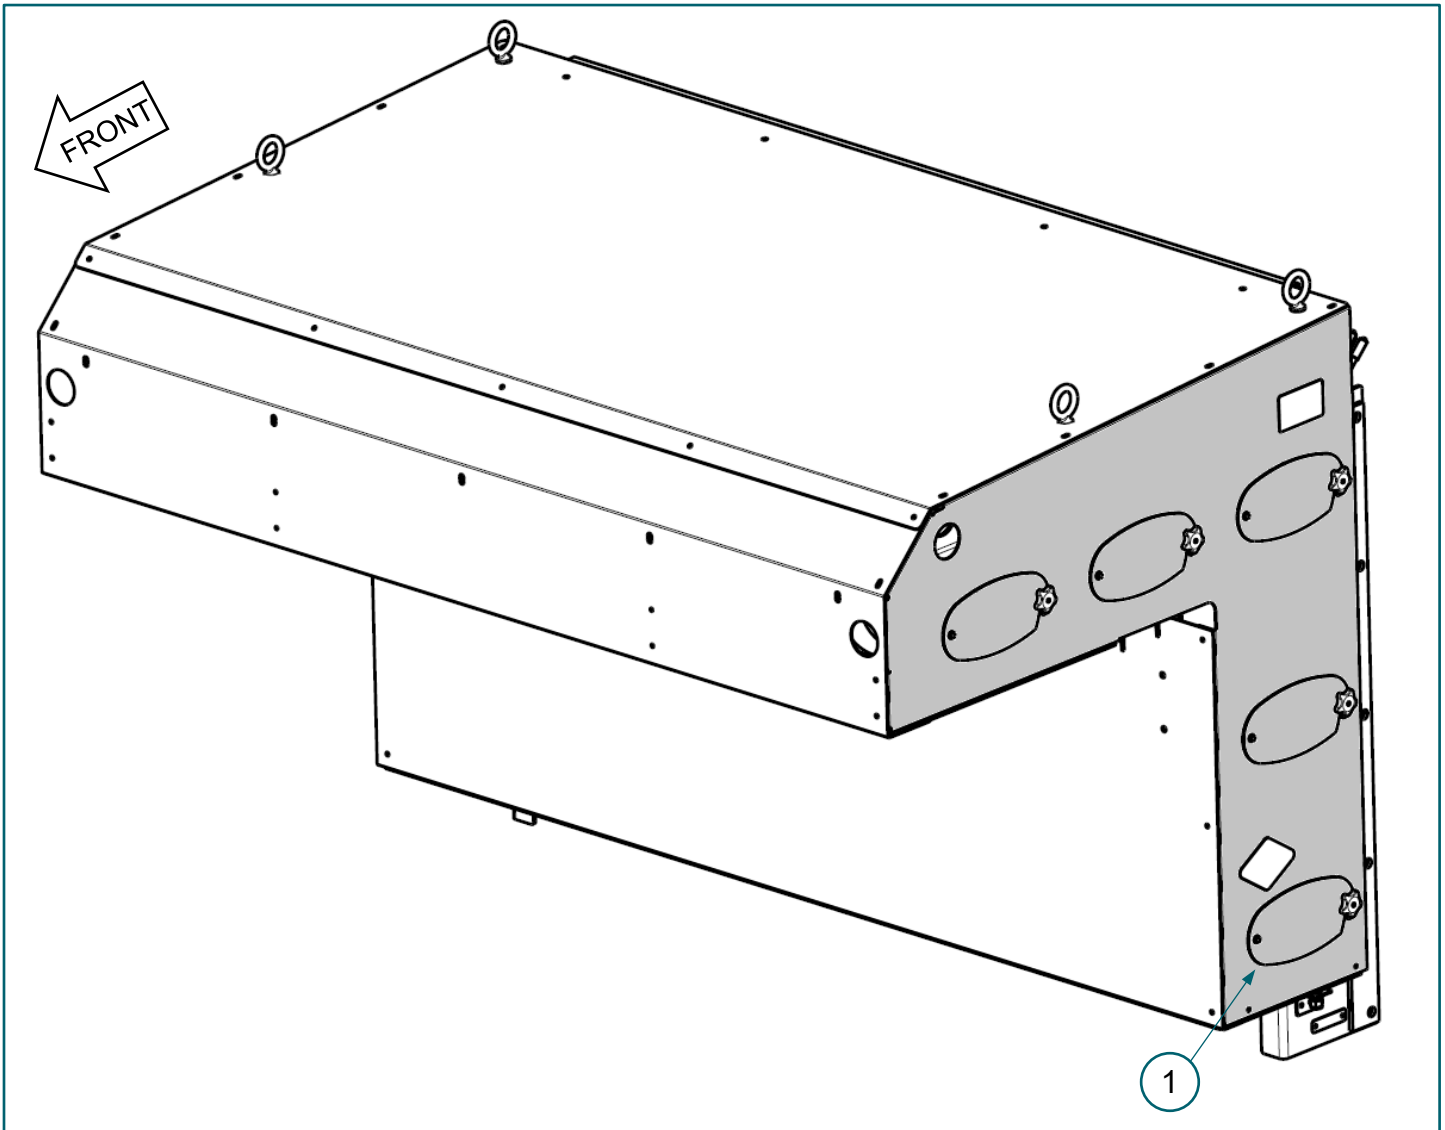

FIGURE 2. Fuel system cover with valve end panel *shaded*
1. Use a battery powered impact tool with 7/16-in and 9/16-in impact sockets to remove fuel system cover fasteners securing (*shaded*) valve end panel and set aside in a safe place. **FIGURE 2**
2. Remove (1) valve end panel to expose cylinder valve end plumbing. *Refer to OEM instructions.* **FIGURE 2**